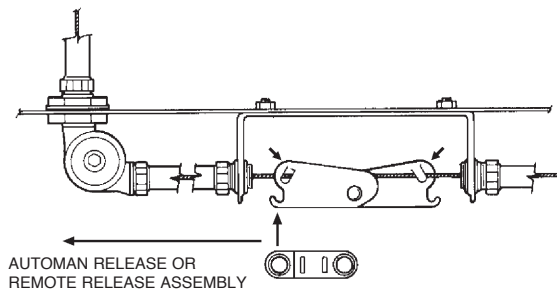

FIGURE 5-28
- Install detector scissor assembly as shown in Figure 5-28. Note that the AUTOMAN release or remote release assembly is located on the left side of the detector bracket. **Slightly** crimp the two assembly boot-hooks over the cable with pliers so the cable is captured under each hook but the whole assembly can move from side to side. Center the assembly in the detector bracket.